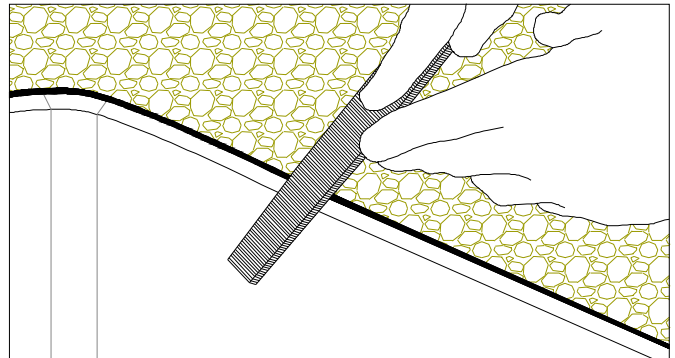

Figure 18B
- Soften the sharp edge of the laminate with a laminate file. (FIG. 18B)